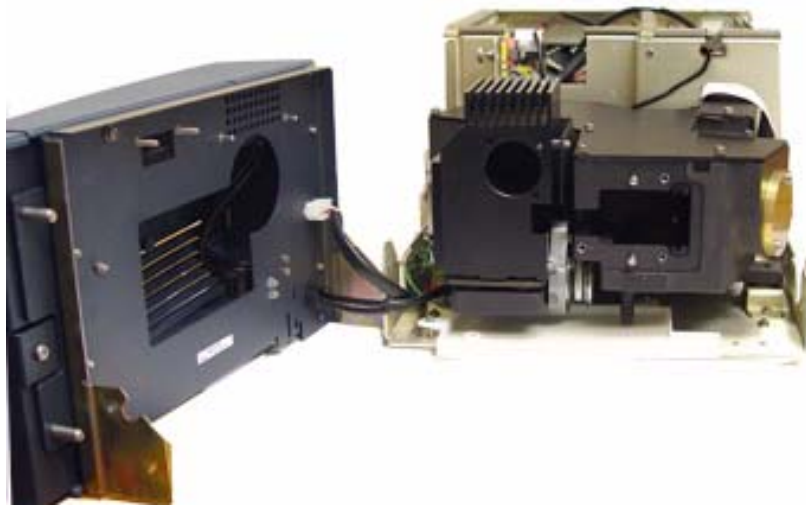

Figure 4 - Front Panel/Bezel Assembly Removed
8. Supporting the front panel/bezel assembly, move it aside to gain access to the optics bench and associated cables (Figure 4).